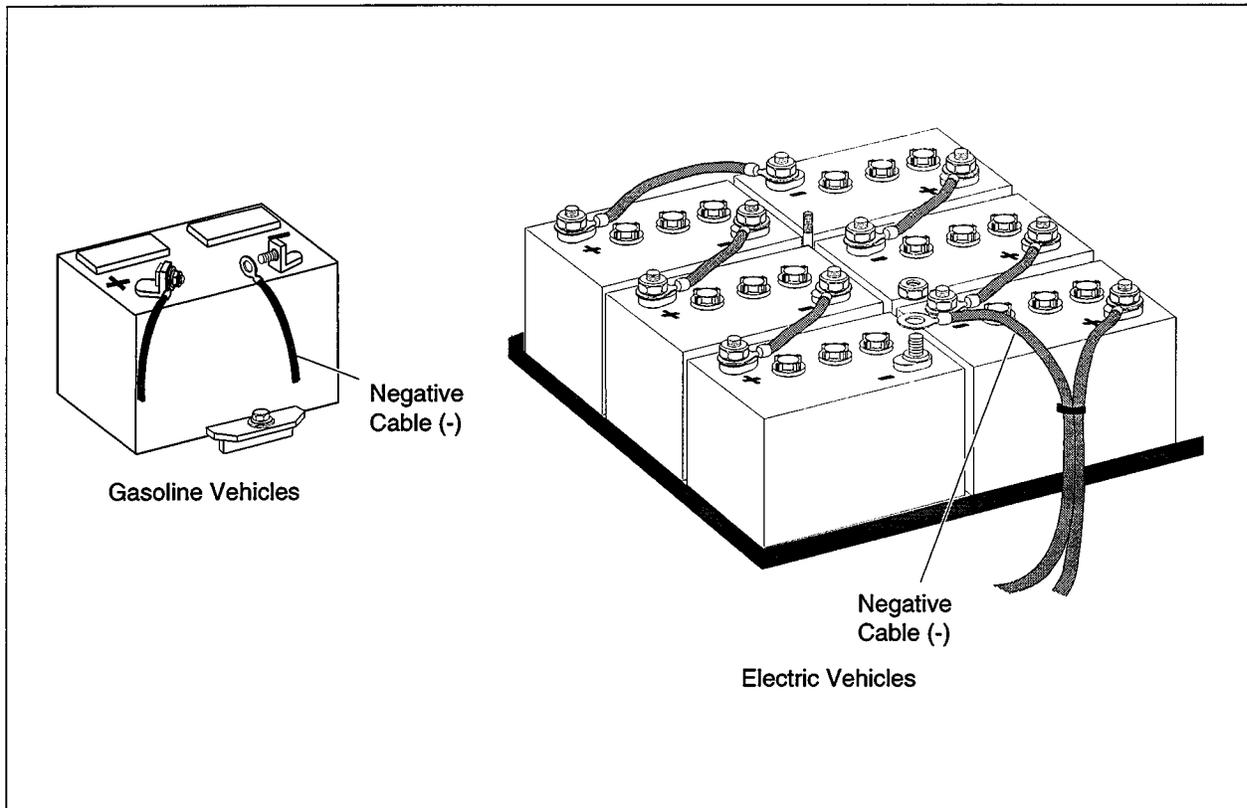

Fig. 1
A. DISCONNECT BATTERY (See Fig. 1)
E. RECONNECT BATTERY (See Fig. 1)